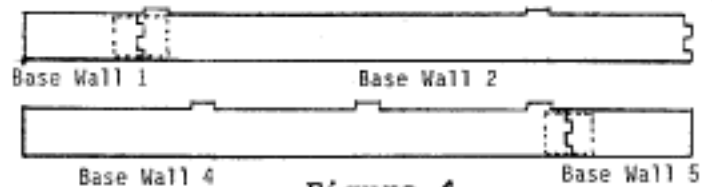

Figure 4
3. Locate the Base Walls 1, 2, 4, and 5 (Sheet CA-4). Glue and interlock the notches. Glue one of the base floor supports to the bad side of each splice. Figure 4.